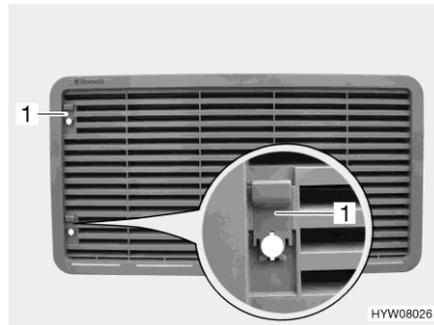
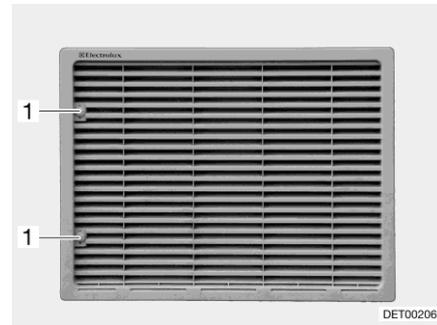

Fig. 145 Refrigerator ventilation grill (with sliding trap)
Fig. 146 Refrigerator ventilation grill (with screw)
- Depending on version: Push up the sliding trap (Fig. 145,1) or turn the screw (Fig. 146,1) a quarter turn using a coin.